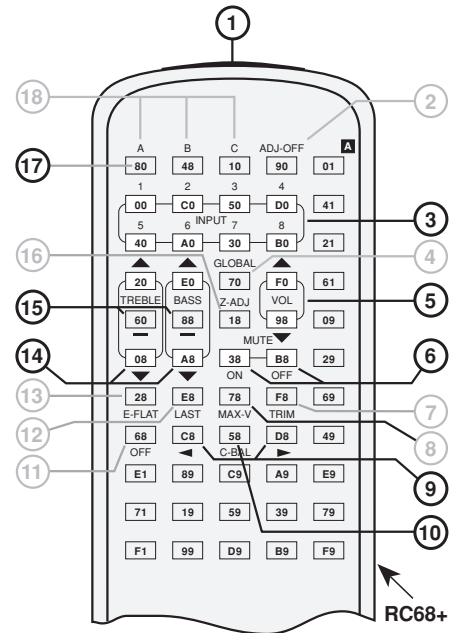

Fig. 2
- The model RC68+ (and RC68) handheld programmer (available separately), is the source of all the IR (infrared) commands necessary to operate the RP41AV (see Fig. 2). Normally the installer would "teach" these commands into a Xantech Learning Remote, Key Pad or other learning device for use by the customer.
- Each emitter has a clear adhesive layer on the bottom flat surface of the shell. The rounded side faces the user and emits visible red light when a command is sent (**Fig. 2**).